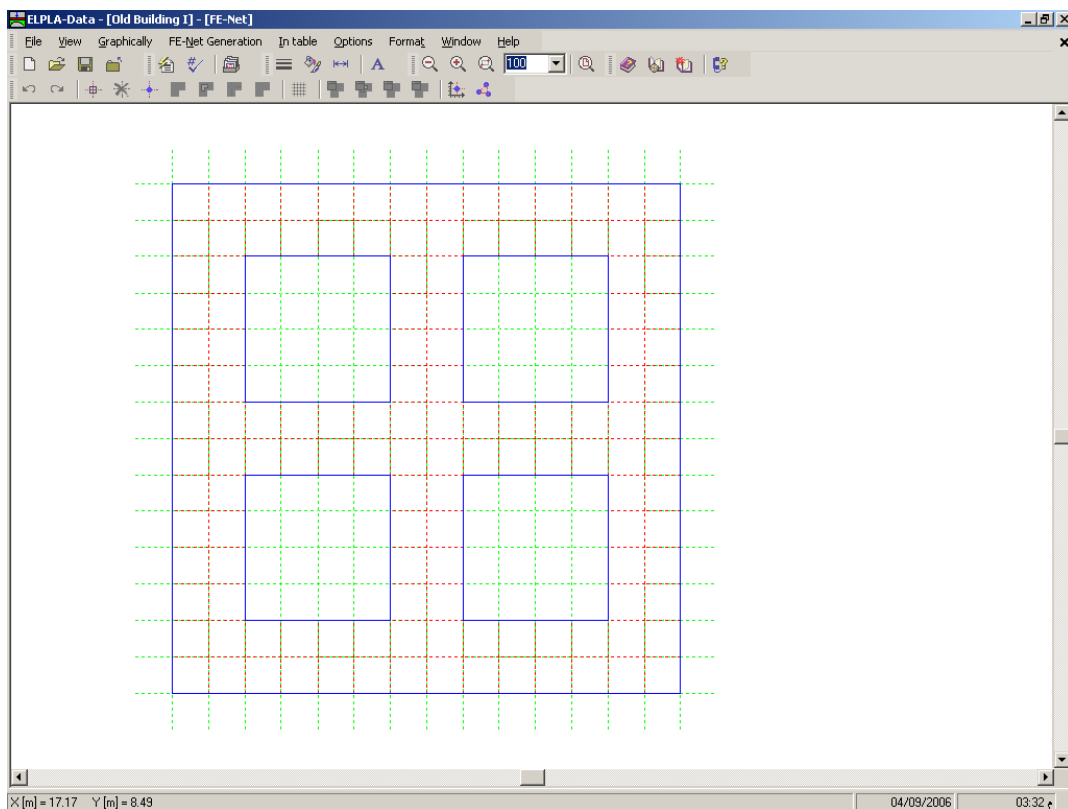

Figure 9-14 Final FE-Net after deleting the unnecessary nodes
To remove the selected nodes, choose "Remove nodes" command from "Graphically" menu. The action of this command is indicated in Figure 9-14. To leave the graphic mode, press "Esc" key.
- Choose "Save FE-Net" command from "File" menu in Figure 9-14 to save the data of the FE-Net
- Choose "Close FE-Net" command from "File" menu in Figure 9-14 to close "FE-Net" embedded program and to return to the main window of *ELPLA-Data*